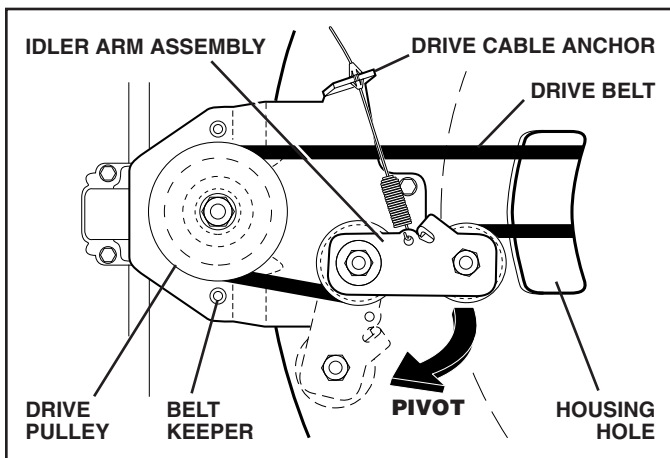

FIG. 19
3. Remove drive cable from anchor, then detach the drive cable spring from idler arm assembly (See Fig. 19).
9. Install new drive belt into idler arm assembly, then around the drive pulley. Be sure belt is inside of belt keepers (See Fig. 19).